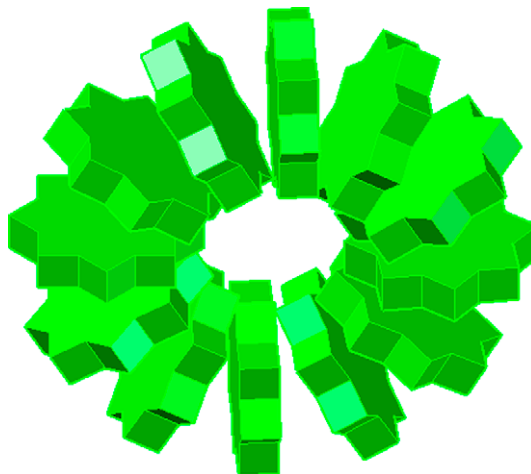

Fig. 14.13 Second example – a 3D Polar Array
Second example – a Polar Array (Fig. 14.13)
4. Shade using the **View/Visual Styles Shaded** visual style (Fig. 14.13).